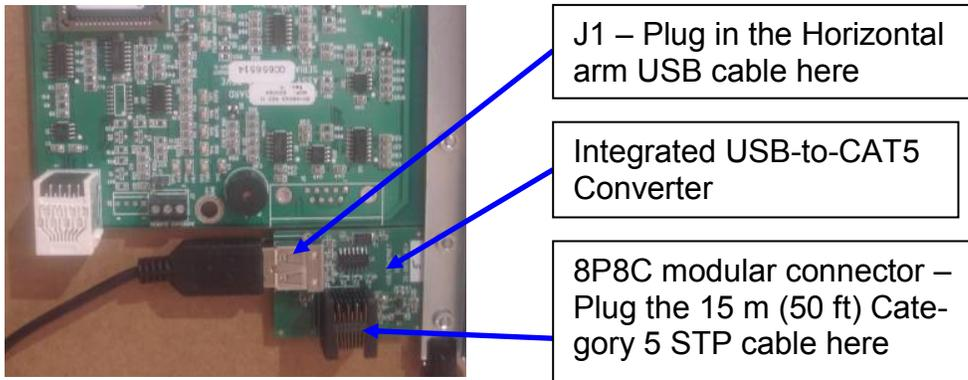

Figure 53
1. Attach the Integrated USB-to-CAT5 Converter (part #30-08141) to the bracket adjacent to the Logic PCB. Use the two 3 mm x 5 mm screws provided as shown on Figure 53, page 30.
2. Plug the USB cable from the horizontal arm into the Integrated USB-to-CAT5 Converter at J1 (see Figure 53 on page 30).
3. Plug one end of the 15 m (50 ft) Category 5 STP cable into the 8P8C modular connector on the Integrated USB-to-CAT5 Converter (see Figure 53 on page 30).